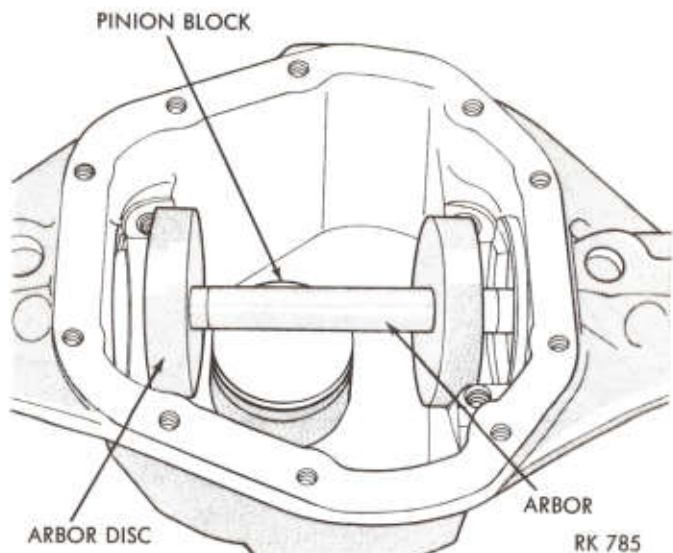

Fig. 16—Arbor Discs and Arbor in Position
(2) Mount arbor discs Tool D-115-4 on arbor Tool D-115-3 and install into cross bores of carrier (Fig. 16).